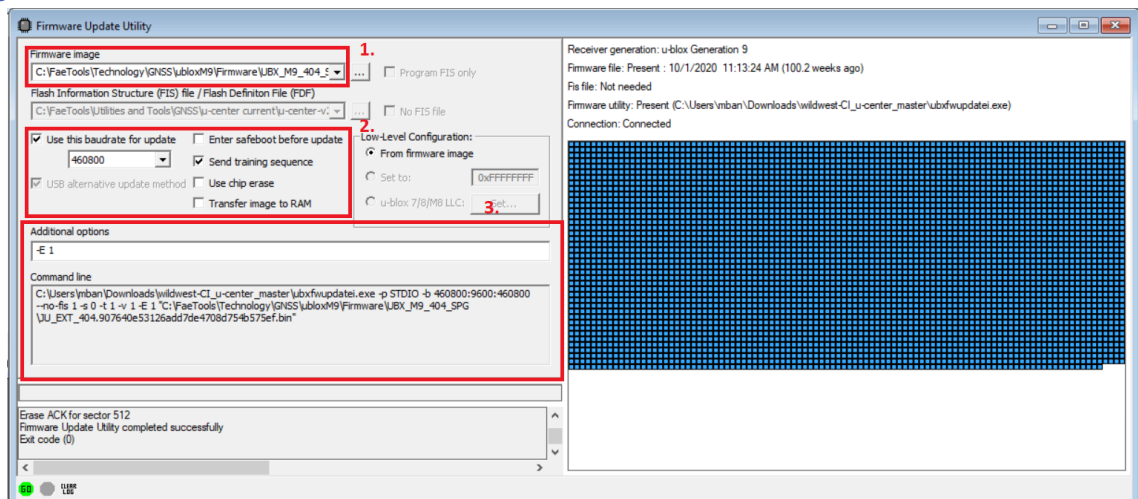

Figure 8: Firmware update tool
1. Select **Tools > Firmware Update....** The firmware update window will appear as shown in Figure 8.